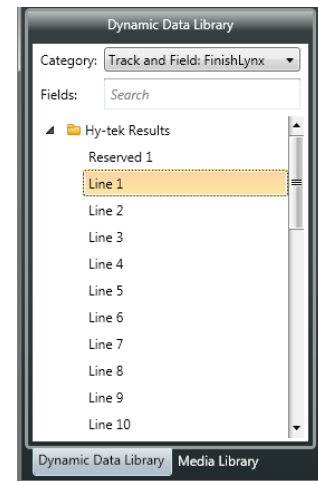

Figure 56: Hy-tek Results
3. Double-click the “Hy-tek Results” folder to see the list of all available data fields (**Figure 56**).